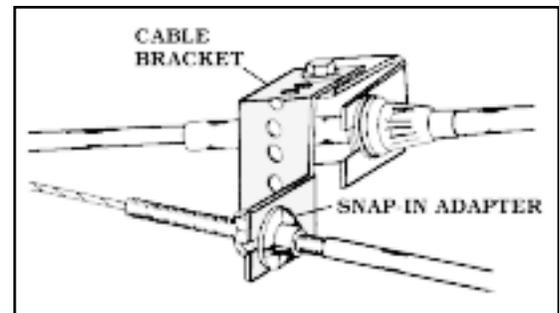
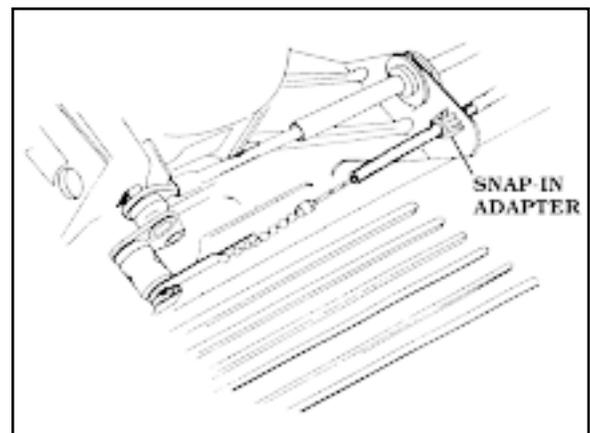

Figure 22
Figure 23
3. The **SNAP-IN ADAPTER** snaps into the square hole of the **CABLE BRACKET** **Figure 22** or snaps into an existing square hole on the vehicle (common on **GM™** vehicles). **Figure 23**